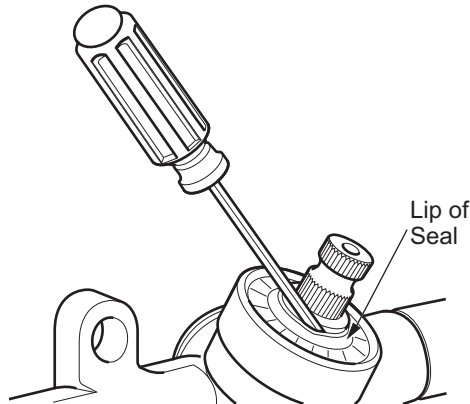

Figure 15 Pinion Seal Replacement
- Slide a small straight blade screwdriver between the lip of the seal and pinion and pry the top portion of the seal up to remove (Figure 15).